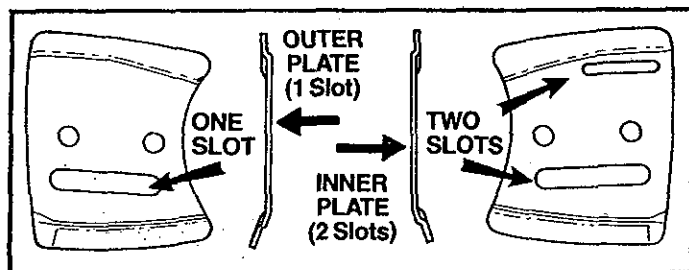

Figure 9
NOTE: Be sure the Inner Guide Plate curves or flanges toward the saw frame away from the Guide Bar. Figure 9 .
9. Install the outer guide plate. Figure 9 .